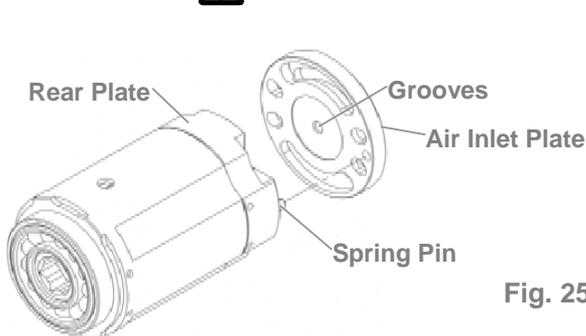

Fig. 251
- ❷ Make the groove of the air inlet plate toward the rear plate and assemble. Make sure the holes aim at the pin while assembling, Fig. 251.
- ❸ Assemble the regulator with the rotor- air inlet unit. Make sure the steel balls of the regulator are placed on the holes of the air inlet plate. Then, place the seat with the o-ring sleeved on the regulator. Assembly is completed.